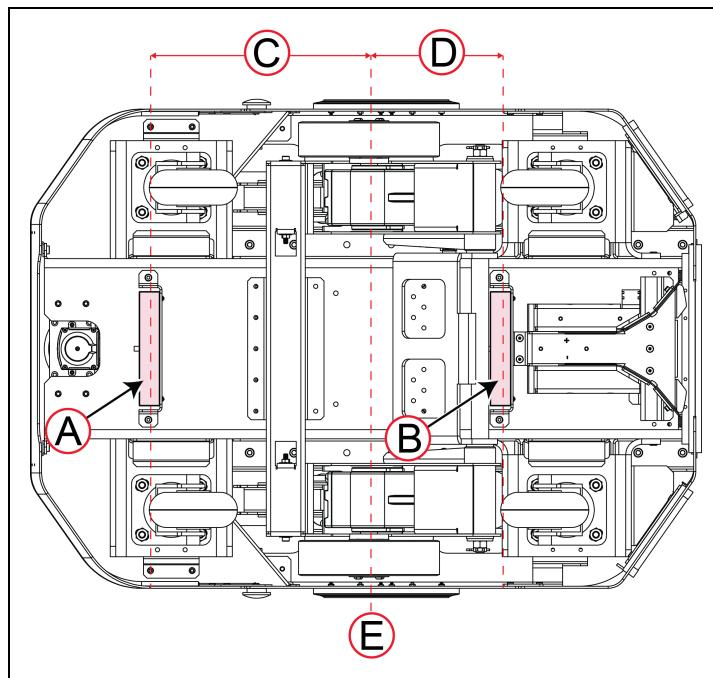

Figure 9-13 Installation Location of HAPS Sensors on the Underside of the LD-250
As shown in Figure 9-13, The front HAPS sensor is located 302.4 mm (11.9 inches) in front of the center line (E), while the rear sensor is located 204.6 mm (8 inches) behind the LD-250's center line (E).
1. Use a 4 mm hex key and the two supplied M5 socket head cap screws and washers to install the sensor marked **Front** at location [(A) in Figure 9-13].
- (Dual Only) Use a 4 mm hex key and the two supplied M5 socket head cap screws and washers to install the sensor marked **Rear** at location [(B in Figure 9-13].